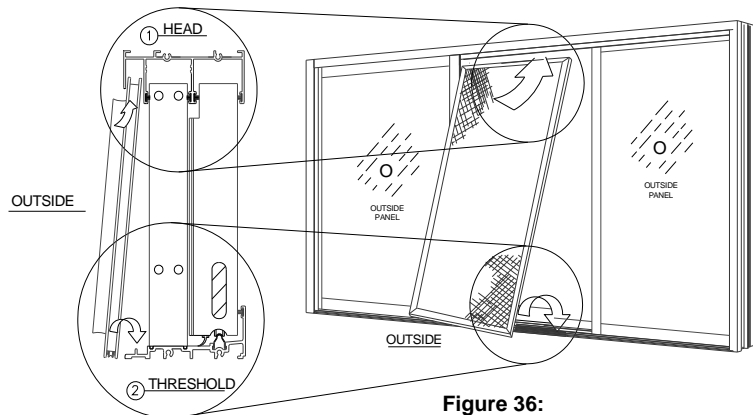

**Figure 34:**
- Attach the false jamb to the sill block using a (1) #10 PHP-A, 3" screw.
- Add (4) #8 PHP-TEK, 3/4" screw along the false jamb interior of fixed panel (Figure 34).
- Using (4) #8 x 3/4" long pan head self tapping screws (Figure 34).